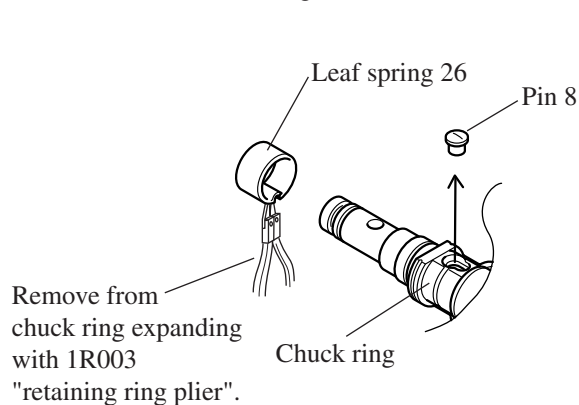

Fig. 4
- (4) Remove leaf spring 26 with 1R003 "retaining ring plier" from chuck ring, and then, detach pin 8 as illustrated in Fig. 4. Remove chuck ring, steel ball 7.0 and guide washer from tool holder as illustrated in Fig. 4A.